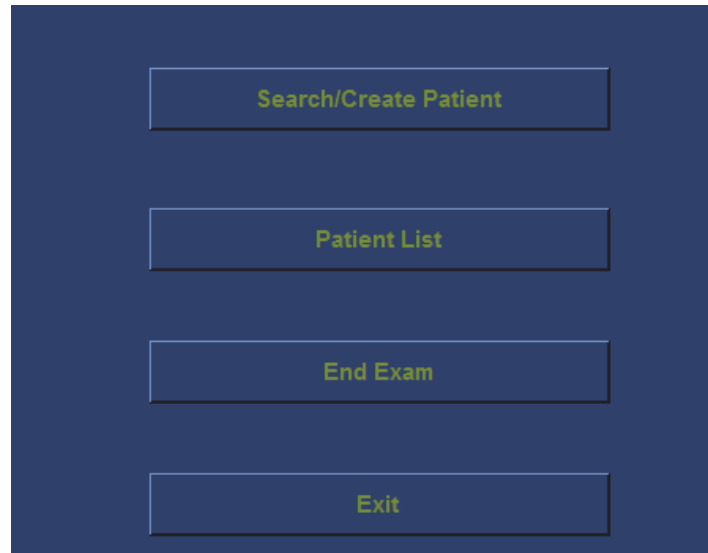

Figure 7-1: Patient Handling Screen
STEP 1 Press **Patient** key on the control panel, the **Patient Main** window is different compared to Figure 7-1 when an examination has already started.